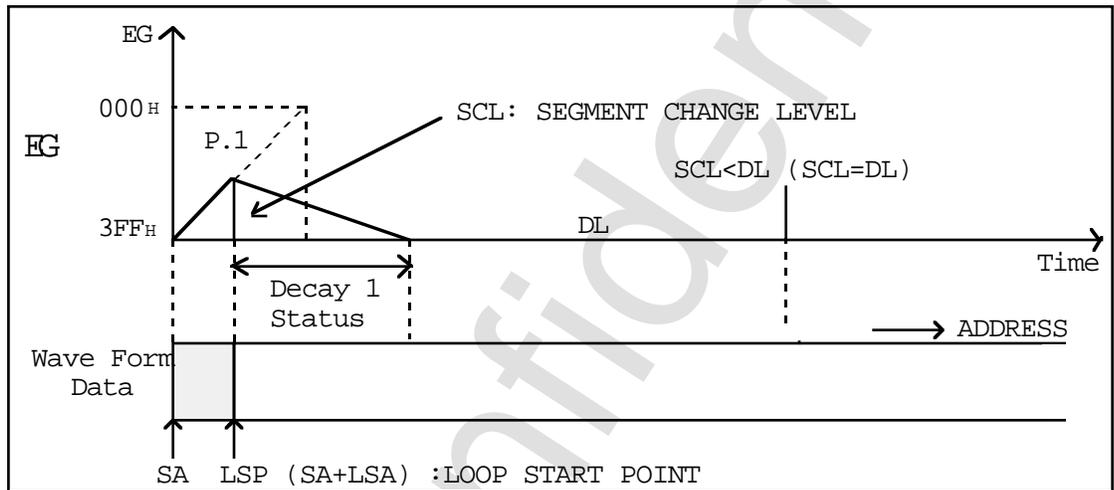

Figure 4.17 Transition (3) from the Attack State to Decay 1
- When the wave form read address reaches the loop start point, and the "SCL" at this point (EG level) is smaller than the "DL" (decay level) (reversed when compared to the actual EG level). (Figure 4.17)